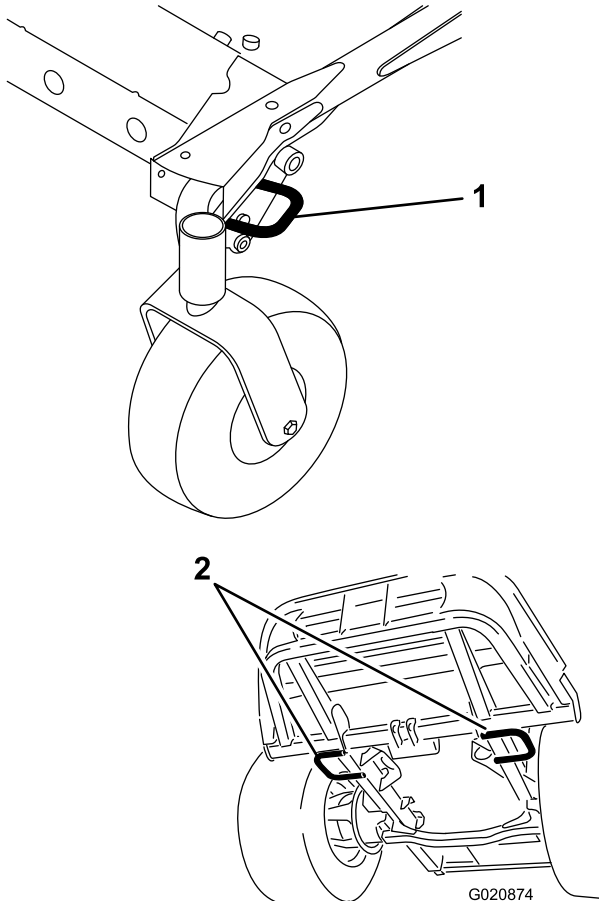

Figure 30
3. Securely fasten the machine to the trailer or truck with straps, chains, cable, or ropes as required by local traffic regulations in your area (Figure 30).